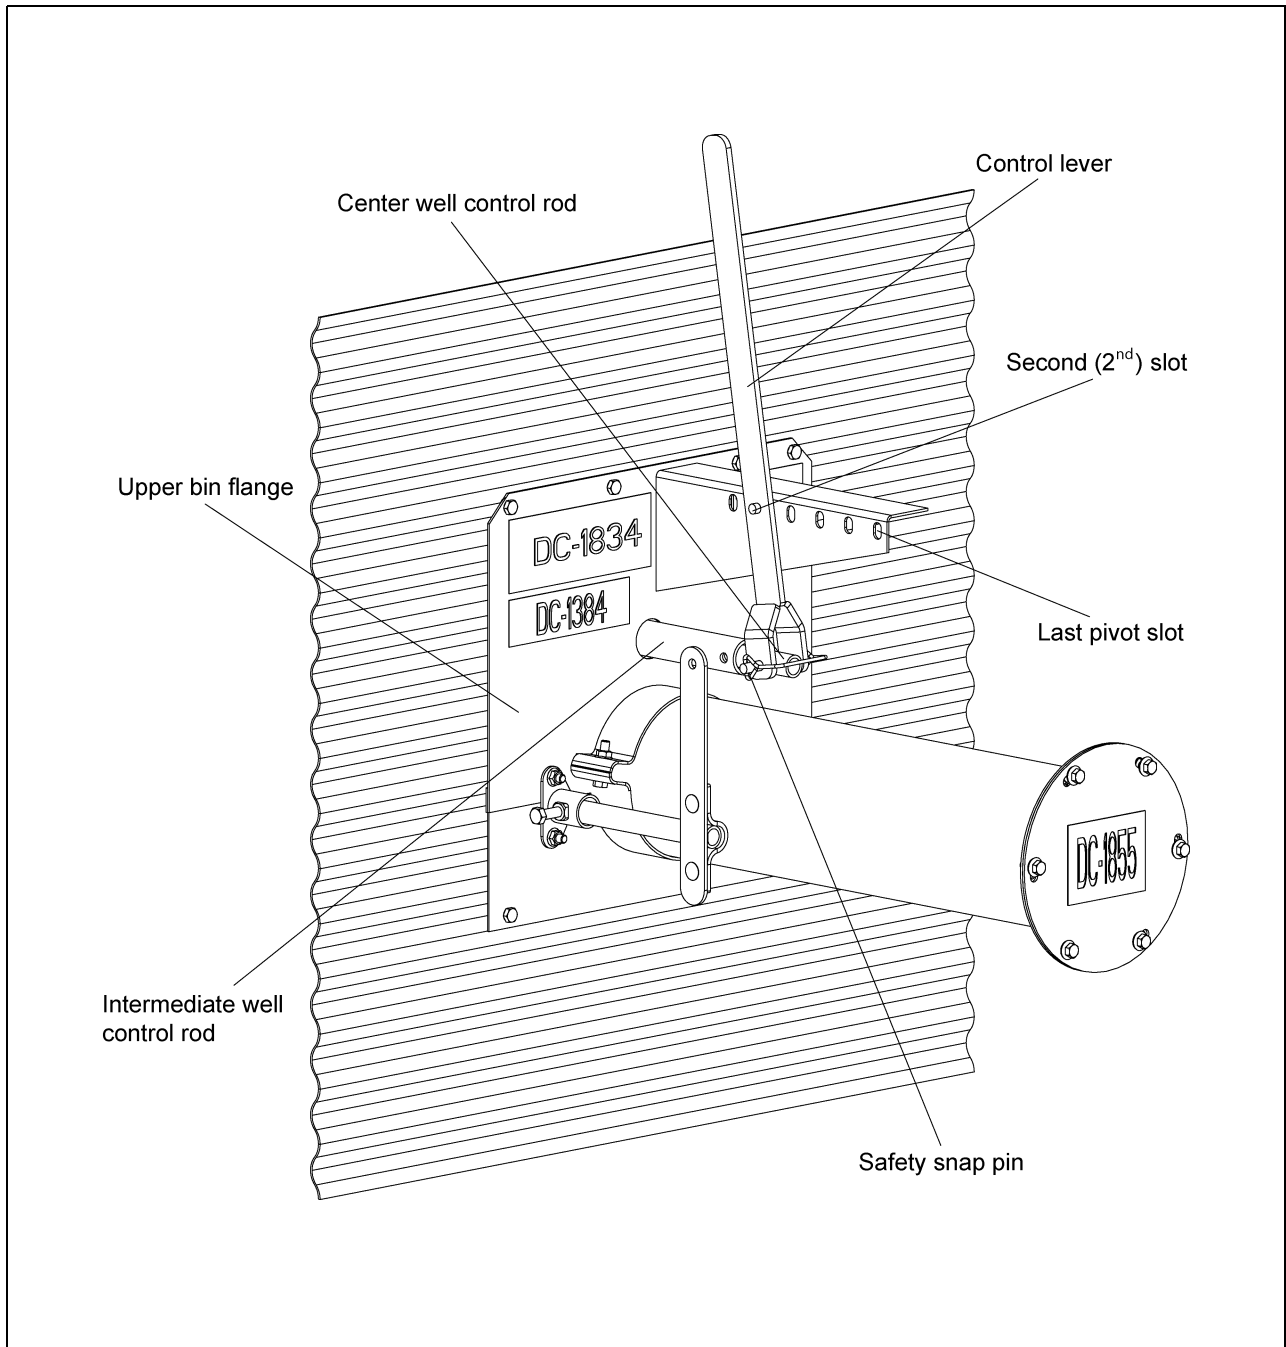

Figure 5C
2. The safety snap pin should be inserted through the center well control rod and the control lever. Make sure it has NOT been inserted through the intermediate well control rod. See Figure 5C.
3. Place control lever in the second slot and pull lever to open gradually until the desired flow is established. See Figure 5C. It should not be necessary to open the gate more than 3" to 6".
6. Gradually open gates using the middle pivot slot until the desired flow of grain is reached. You should not open the gates more than 2" to 4". If gates need to be opened further, use the last slot for more leverage. See Figure 5C on Page 38. The remaining grain should look similar to Figure 5F.